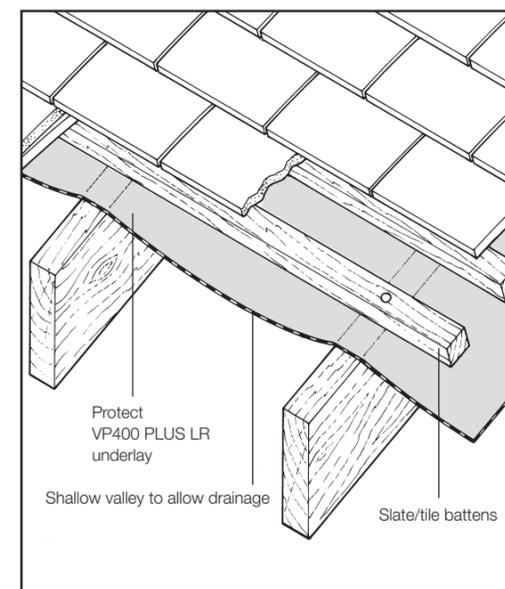
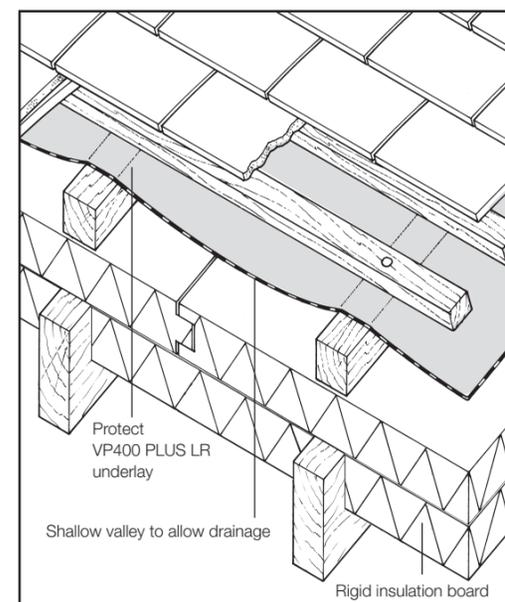
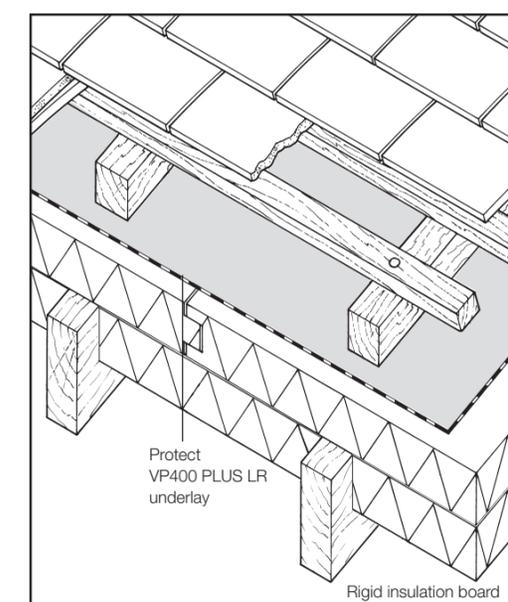

Fig 1
Fig 3
Fig 4
- Protect VP400 PLUS LR vapour permeable underlay may be used for cold roofs with ventilated or unventilated loft spaces (see Figs 1 and 2) or warm roofs with insulation between and or above rafters (see Figs 3 and 4).
Protect VP400 PLUS LR can be laid draped unsupported (see Fig 3) or fully supported on insulation (see Fig 4). To ensure the integrity of a well sealed ceiling, a separate vapour control layer such as Protect VC Foil Ultra must also be used on the warm side of the insulation.